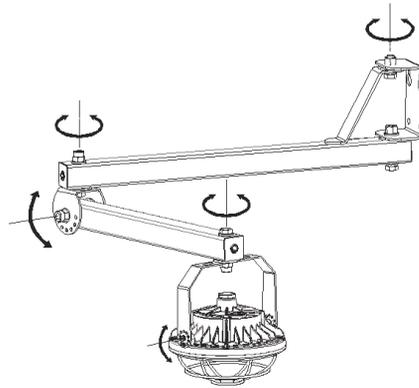

Figure 4
1. the irradiation angle can be adjusted in multiple directions and angles to meet the irradiation requirements of the site (Figure 4)